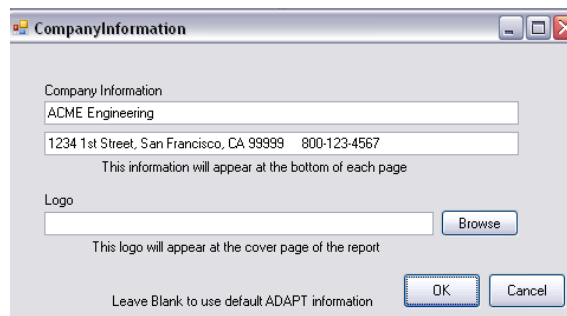

FIGURE 3.3-2
- Report cover: Select this option to generate a report cover with your logo and company information. To update your company information, click on **Update Company Info** on the *Report Generator* and you will see the screen **Company Information** shown in **Figure 3.3-2**.